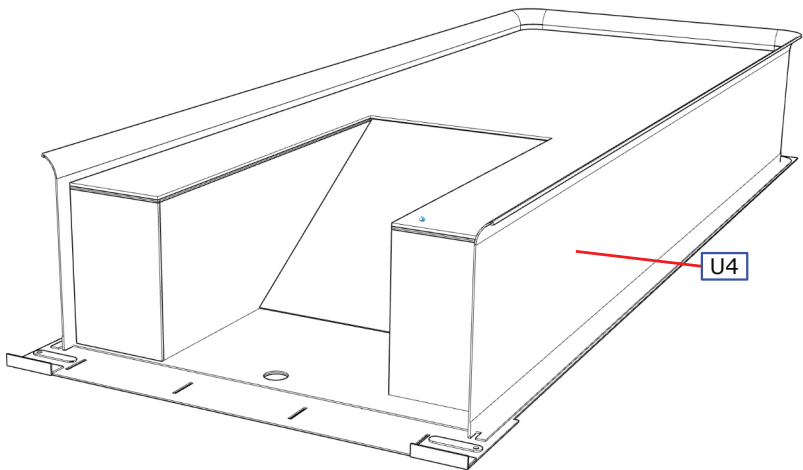

Fig 8. Tank Wrapper
**Subsequent modifications included:** Swapping the vacuum and steam heating pipes to opposite sides on the rear buffer beam with a characteristic cross-over of the pipes under the footplate at the rear. This may have been done at the same time as long, small diameter transverse vacuum tanks were fitted from the middle 1920's. (Figs 8 & 9).